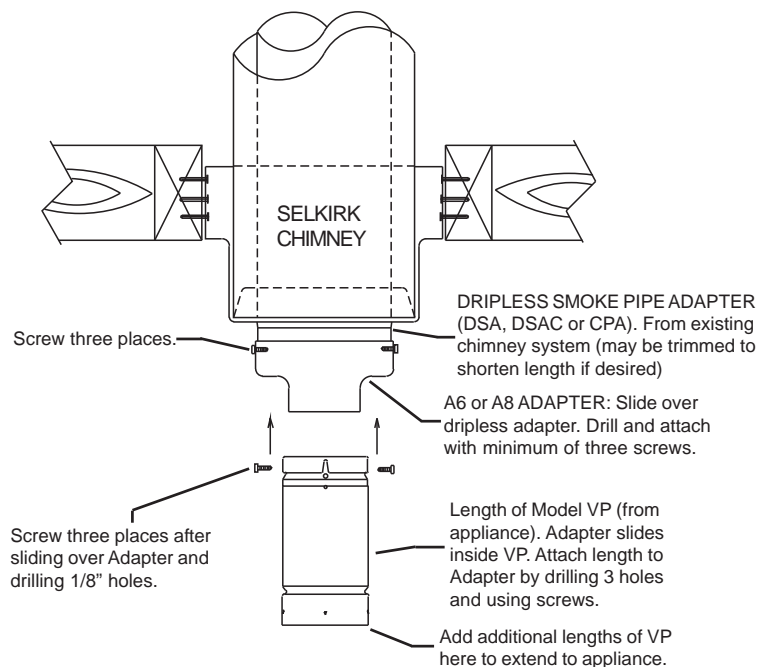

Fig. 1 ATTACHMENT OF VP ADAPTER TO EXISTING SELKIRK CHIMNEY INSTALLATION
Install the VP adapter by sliding it over the DSA, DSAC or CPA adapter extending from the chimney inlet. Mark and drill a minimum of three (3) 1/8" diameter holes (equally spaced around the perimeter and approximately 1/2" beneath the top of the VP adapter) through the dripless adapter. Attach adapter by inserting screws through holes (see Fig. 1).